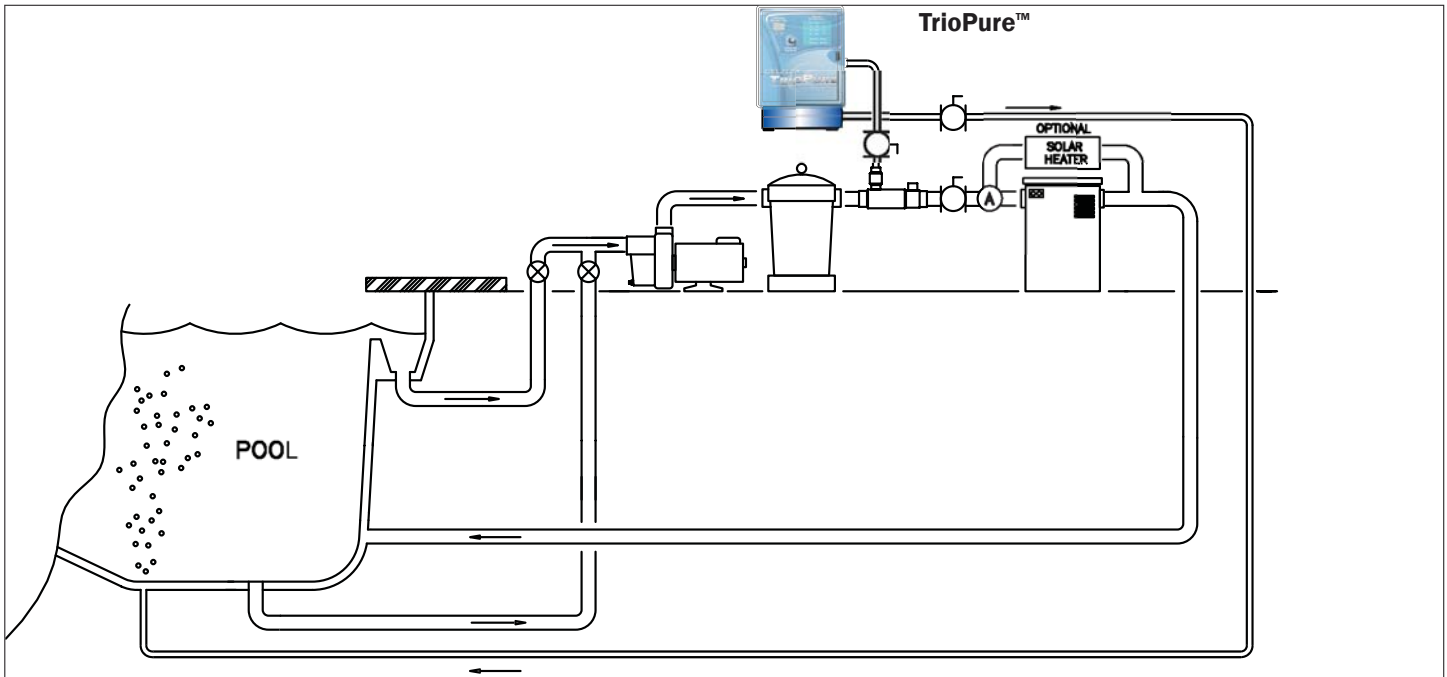

Figure 1 - (New Pool, Pool Only, No ICS, No Solar, Solar):
- If you use solar panels for pool heating, your TrioPure™ must be plumbed with the manifold before the solar heater, and the water return from the TrioPure™ after solar heater. Subjecting chlorine and ozone to the heat and turbulence of a solar heater will greatly reduce their overall effectiveness and the bubbles that can be created through your solar heater can inadvertently shut off the TrioPure™. See Figures 1, 2, 3, 7, 8 and 9.
If your pool is: New Pool Pool Only No ICS No Solar / Solar - See Figure 1